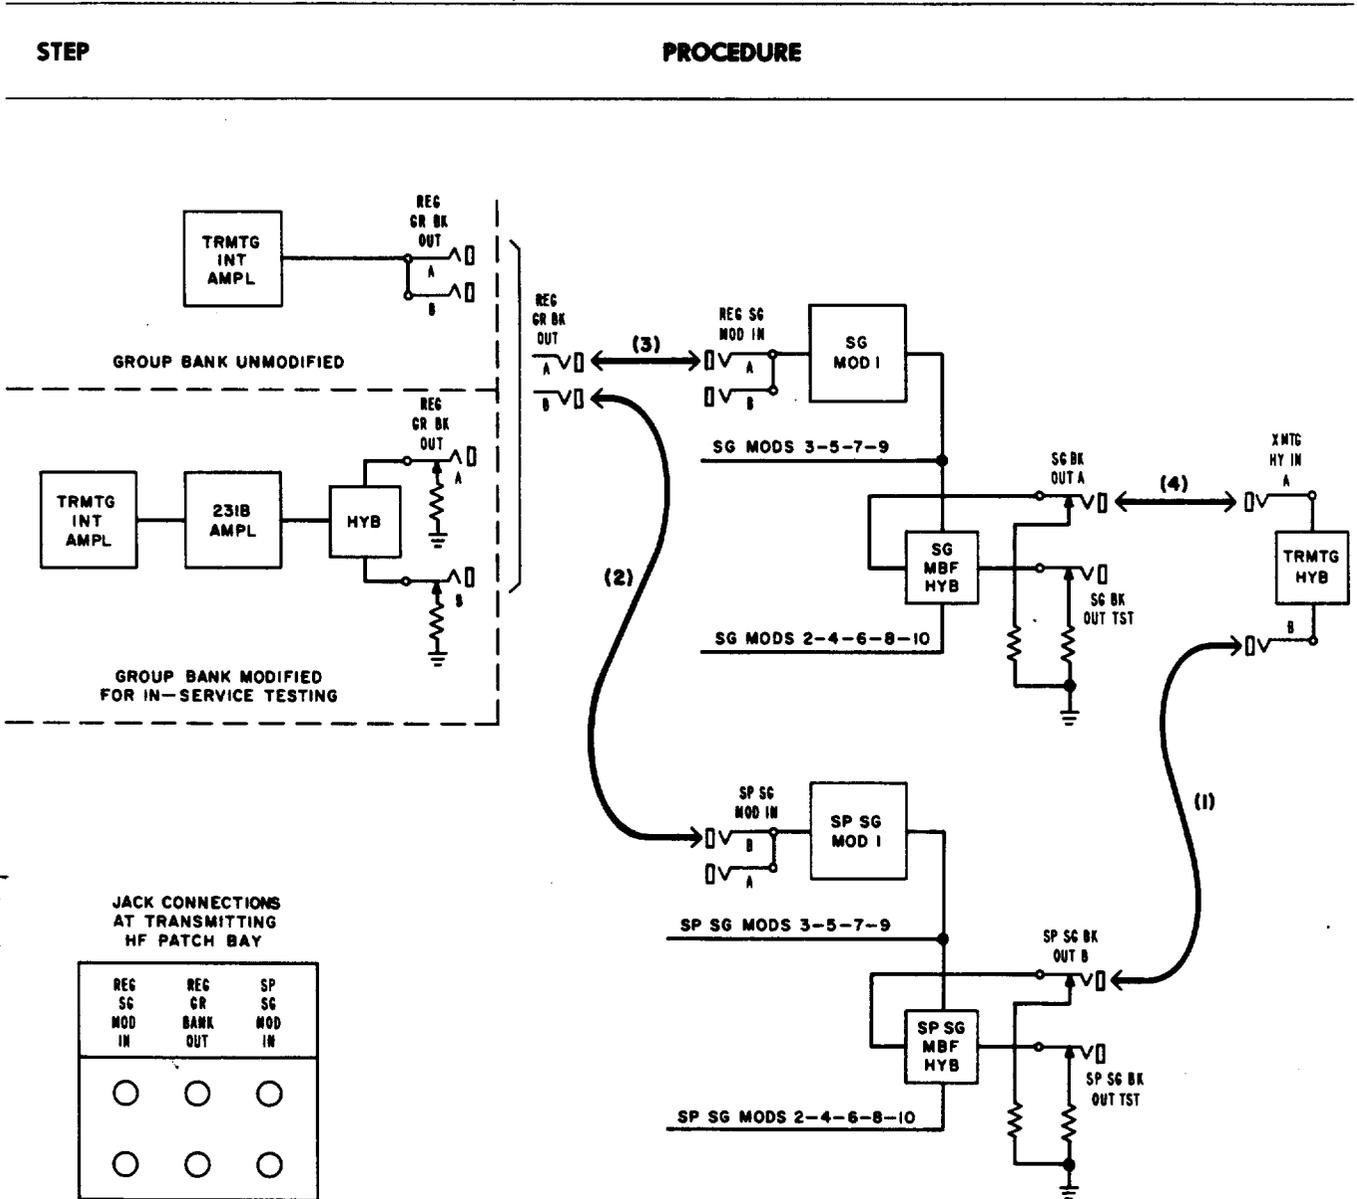

Fig. 4—Patching L600A Transmitting Supergroup Equipment
**3.08** In order to change from regular to spare transmitting supergroup equipment, the ten transmitting spare supergroup modulators must be patched to their corresponding group bank outputs. Figures 4 and 5 illustrate the various arrangements which may be present. In some cases, an unmodified group bank output may be feeding an L1860A supergroup transmitter and, in this arrangement, it is not possible to avoid patching hits. Because
3	Make patch (1) in Fig. 4 from the SP SG BK OUT B jack to the XMTG HY IN B jack.